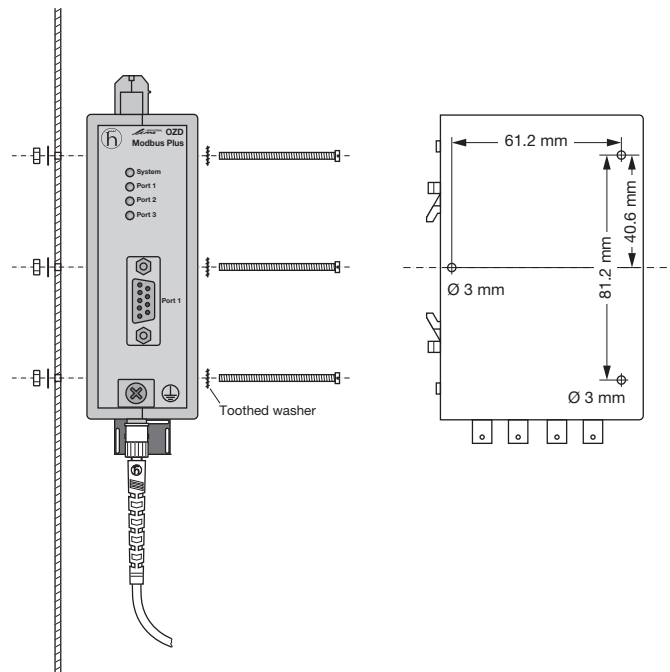

Fig. 10: Mounting repeater on mounting plate
- ▶ Make three holes in the mounting plate corresponding to the drilling template in Fig. 10.